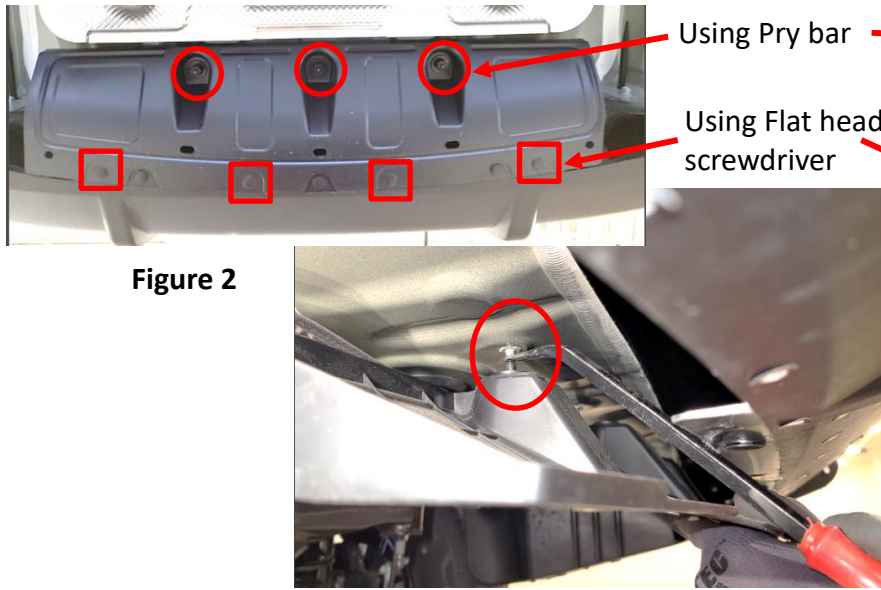

Figure 2
- a) Using flat head screwdriver and pry bar, remove (6) plastic rivets from rear underbody panel, see **Figure 2**. Return the rear panel to vehicle owner.